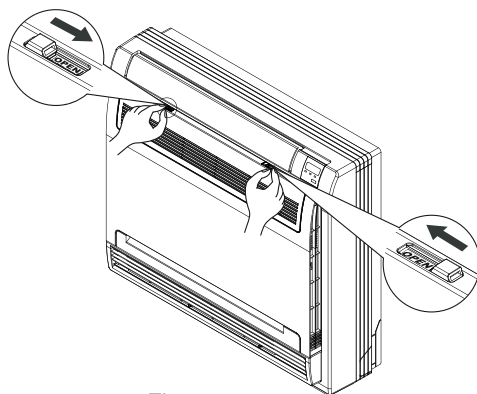

Figure 1
- 1) Open the frontal panel as it is shown in Figure 1, by releasing hook mechanisms.